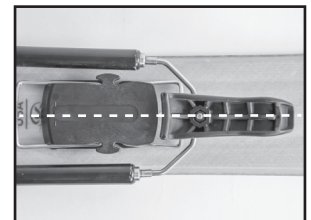

FIGURE 4
1.) Always make sure the Hardwire heel assembly is centered in the ski to maintain even pre-load of the spring cartages. If the spring cartridges come out of adjustment, rotate clockwise to tighten and counter clockwise to loosen, to bring the heel lever back to center. (SEE FIGURE 4)